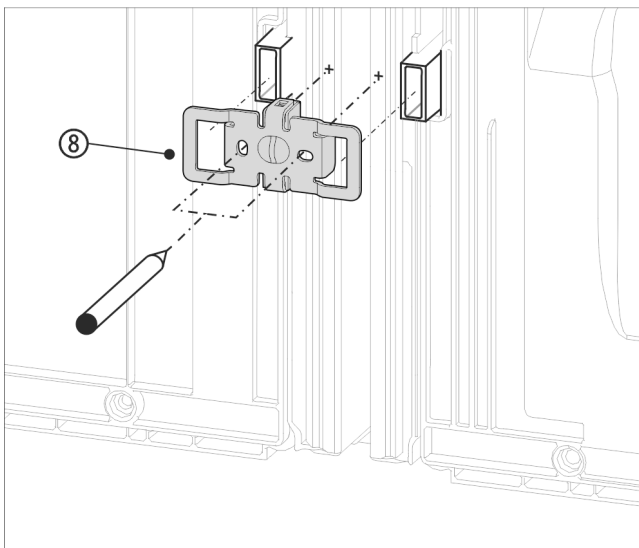

Fig. 17 Example illustration
- ▶ Slide the bracket Fig. 17 (8) with the slots over the retainer for the wall spacers.